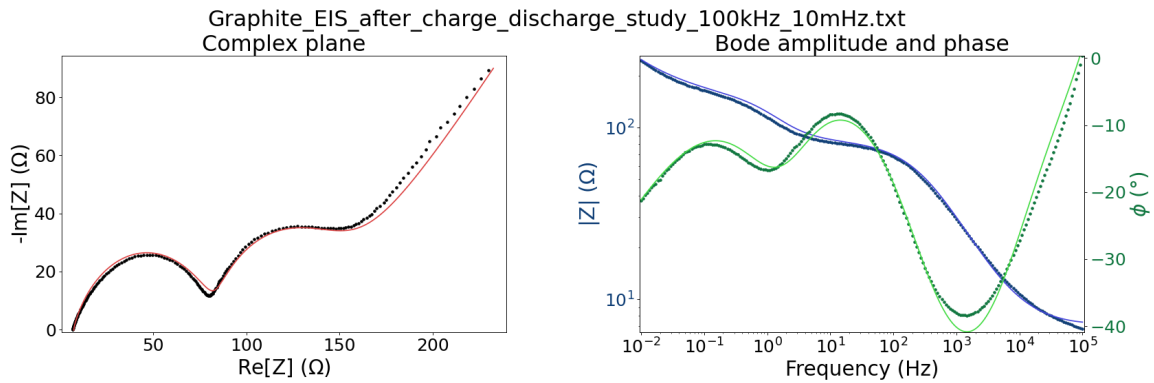

Figure 31: C||Li impedance spectrum after tuning n_2 , Q_2 , and R_2 .
12. Now, the final corrections before automatic refinement should be made. First, L_0 should be increased to around 1.7×10^{-6} H to better describe the phase data at the highest frequencies. On the other end of the spectrum, Q_0 should be decreased to 3.2×10^{-2} Fsⁿ⁻¹. Then, Q_2 can be decreased as well, to 2.4×10^{-3} Fsⁿ⁻¹. The result is Figure 31.